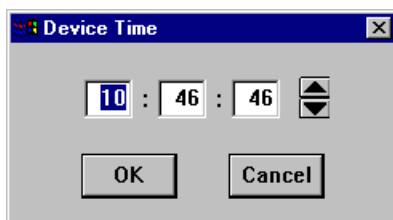

Figure 2-37. The Device Time Window
2. The Device Time change window, Figure 2-37, will appear.